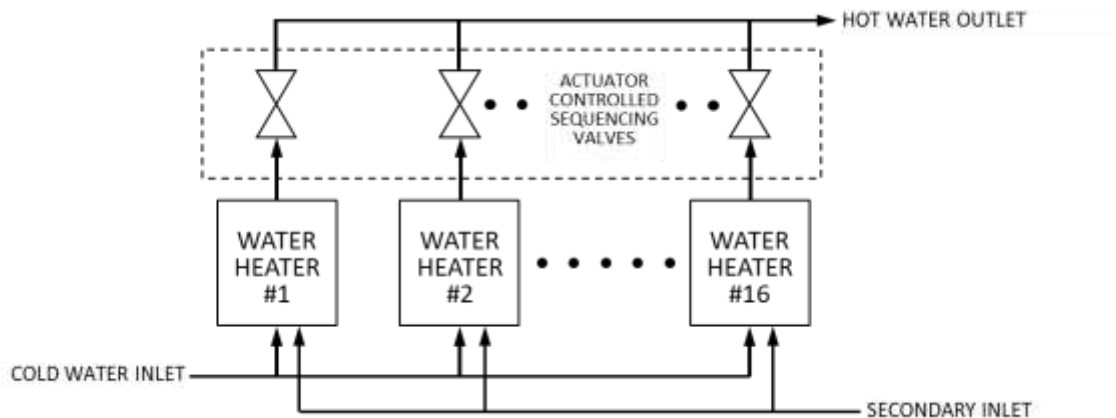

Figure 8-1: Simplified Block Diagram - Water Heater Management (WHM)
The on-board Water-Heater Management system (WHM) feature is integrated in the Edge Controller, designed to stage and coordinate multiple Innovation Water Heaters while maximizing operational efficiency. The WHM software code resides in each Edge Controller that is part of the system. The WHM system can control up to sixteen (16) Water Heaters in parallel. Each Water Heater controlled by the WHM system must be equipped with an actuator-controlled Sequencing Isolation Valve (P/N 92154C). This valve is installed on the outlet of each Water Heater in the WHM network (see **Figure 8-1**, below).